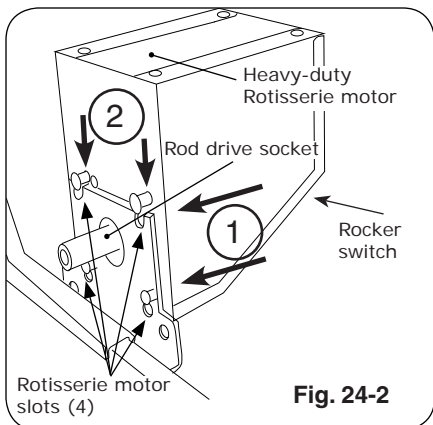

Fig. 24-2
10. Plug-in the rotisserie motor and press the rocker switch to start (Fig. 24-2).